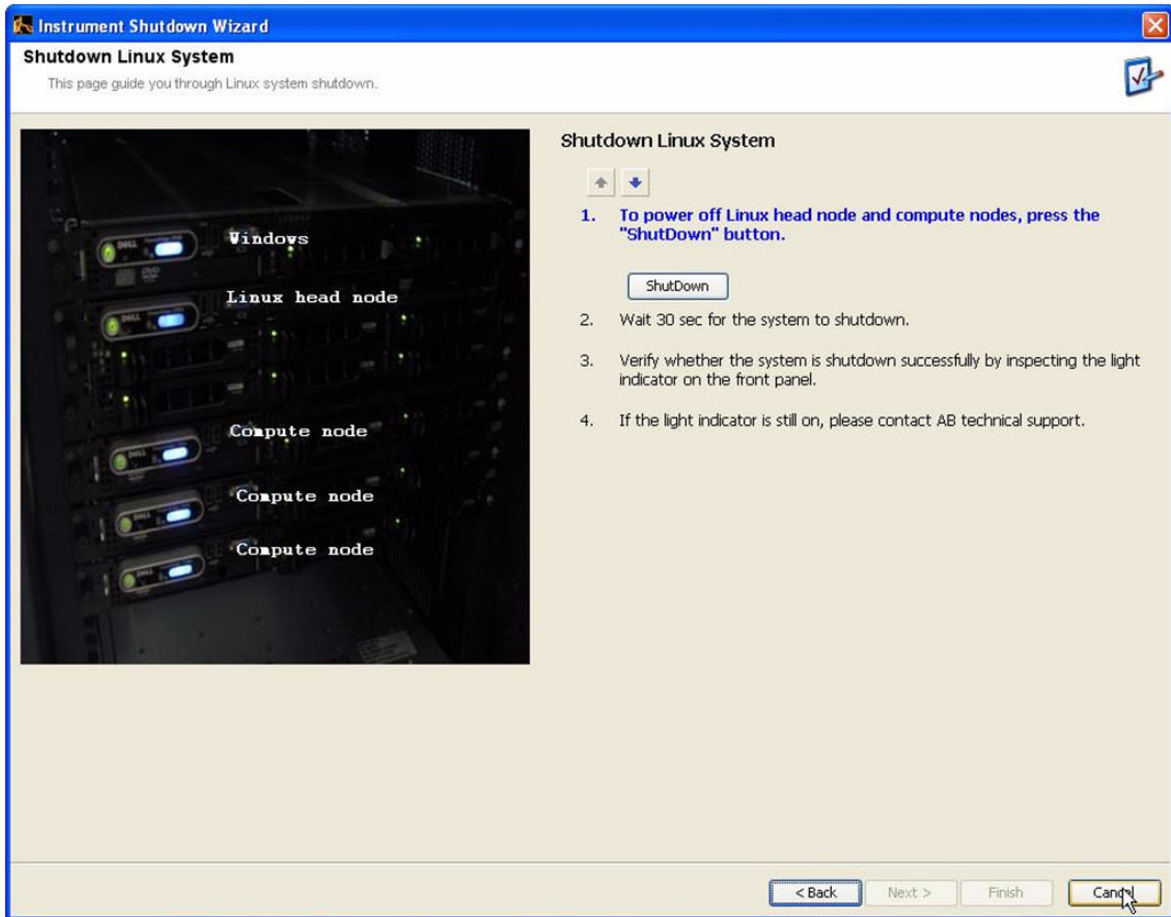

Figure 73 Click Cancel if performing regular maintenance or ShutDown to power down the instrument.
- Analyze in continuous use:** If the SOLiD™ 3 Plus Analyzer is *in continuous use* and you are performing this flush every three months as required for preventive maintenance, click **Cancel** (Figure 73 on page 98). Do not shut down the power to the Linux head node and compute nodes.
- SOLiD™ 3 Plus Analyzer idle for more than two weeks:** If the SOLiD™ 3 Plus Analyzer *will not be used for more than two weeks*, click **ShutDown** (Figure 73 on page 98). Close down the SOLiD™ Instrument Control Software and power down the instrument.